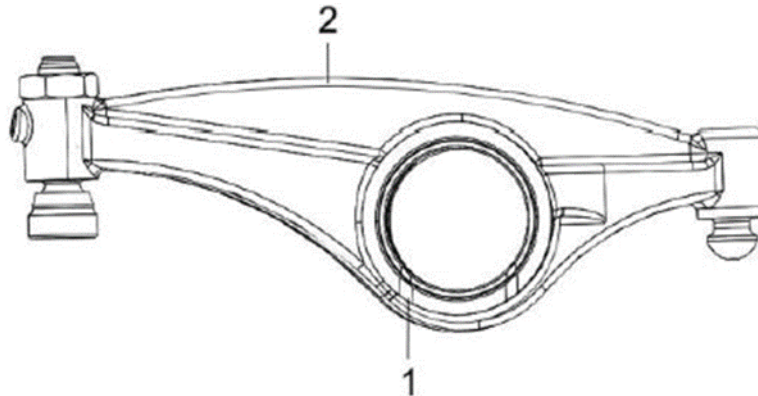

Figure 85. Rocker Arm
- Ensure the lubrication holes (Figure 85, item 1) in the rocker arm shaft are oriented correctly with respect to the rocker arms (Figure 85, item 2).